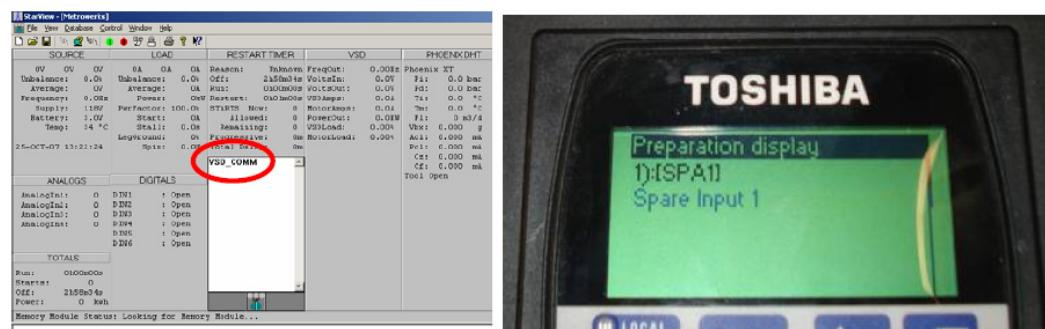

Figure 6-52: VSD Comm error in StarView on left and Spare Input 1 fault on Toshiba Keypad on right
4. Disconnect the cross-over ethernet cable from the MVD card, wait a few seconds, and make sure that StarView and UniConn display the 'VSD Comm' error, and the keypad on the MVD displays the 'Spare Input 1' fault, as shown in Figure 6-52: VSD Comm error in StarView on left and Spare Input 1 fault on Toshiba Keypad on right.